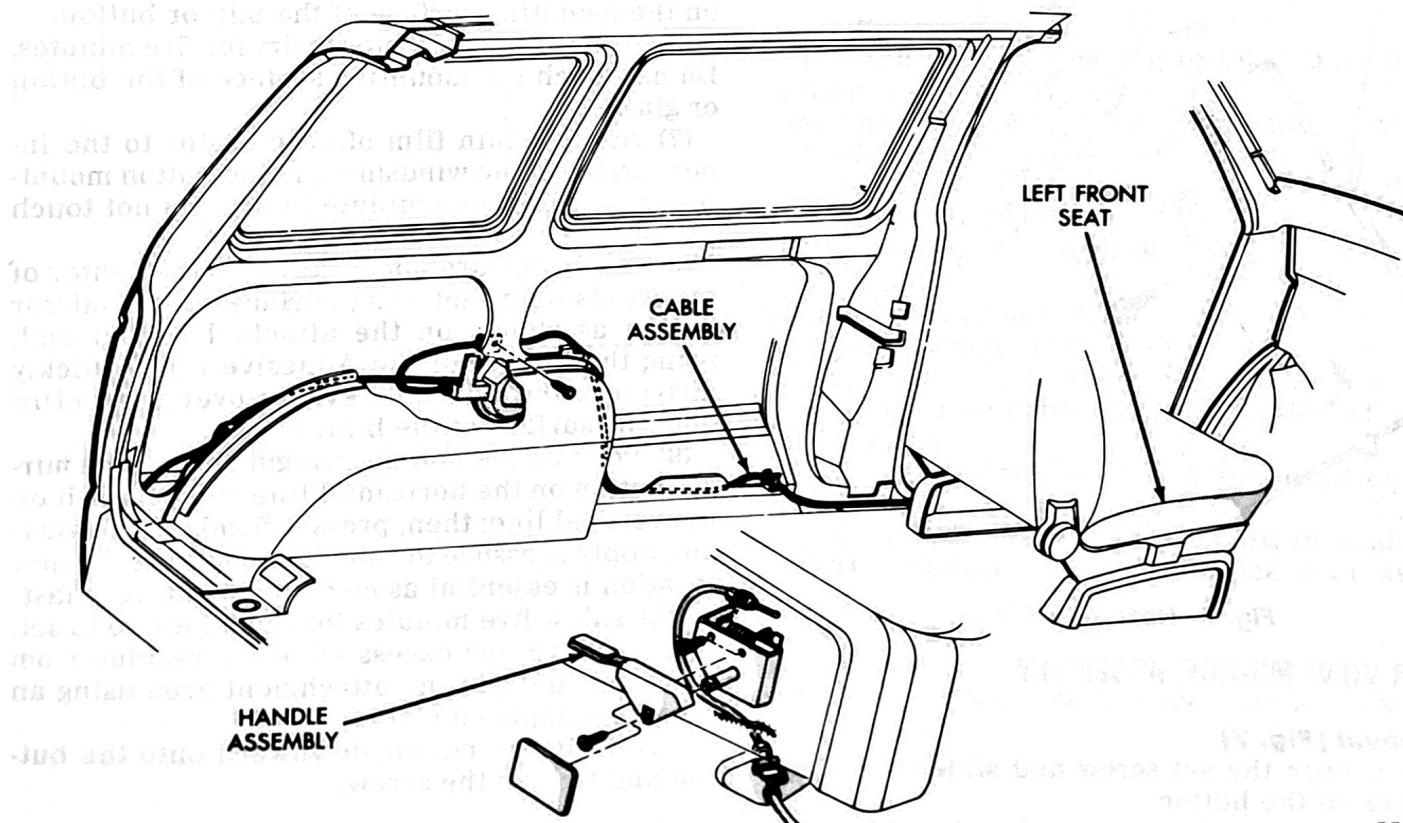

Fig. 2—Fuel Door Remote Cable to Driver's Seat Assembly
- (4) Tilt seat backwards, reach under the front of the seat and grab the cable close to the clip that retains it to the lever assembly (Fig. 2).
- (5) Pull the cable towards the drivers door until it is released from the lever assembly.
- (6) Turn the cable 90° and push inward to separate the cable end from the lever assembly.
- (7) Disconnect electrical connections.
- (8) Remove the seat and riser assembly.